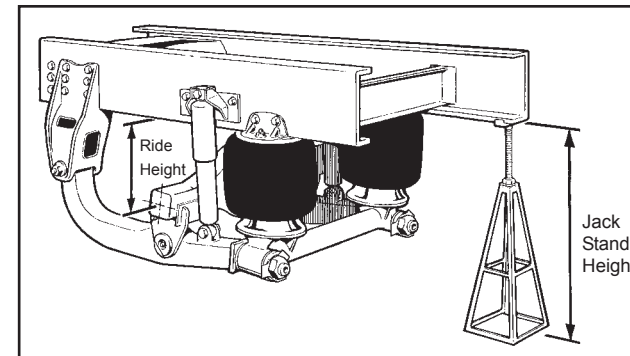

Figure 4. Ride Height
- Bring the suspension to the vehicle manufacturer's recommended ride height. Ride height is measured from the bottom of the frame rail to the center of the axle. (Fig. 4)
- CHECK FOR PROPER RIDE HEIGHT. Disconnect lower linkage end(s) from the axle tab(s). Lower control arm(s)/linkage assembly(s) about 1" and hold for 15 seconds to lower suspension. Reconnect the lower linkage end(s), suspension should return to ride height. Measure the ride height on both sides of the vehicle to verify that the suspension is within the manufacturer's specified tolerance (Fig 4).